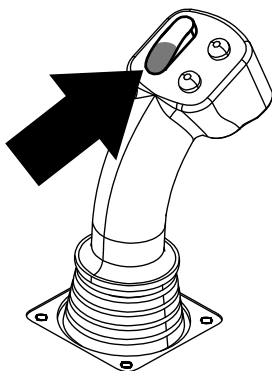
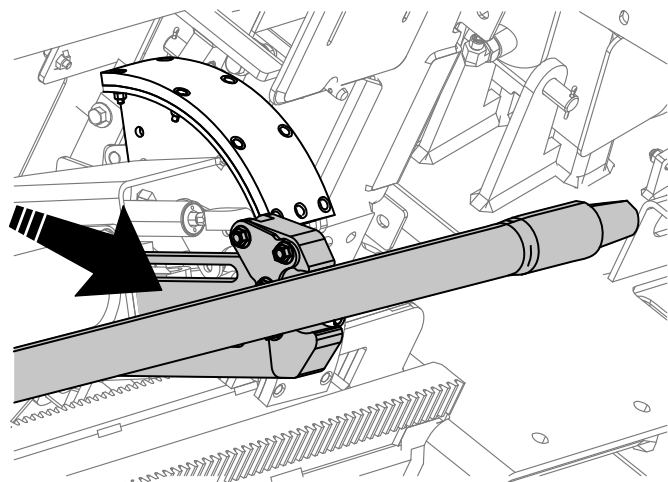

Figure 32
Figure 33
7. Hold the lower section of the rocker switch (Figure 32) until the arms extend (Figure 33).